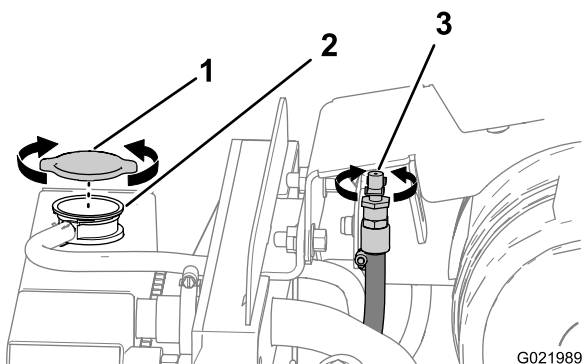
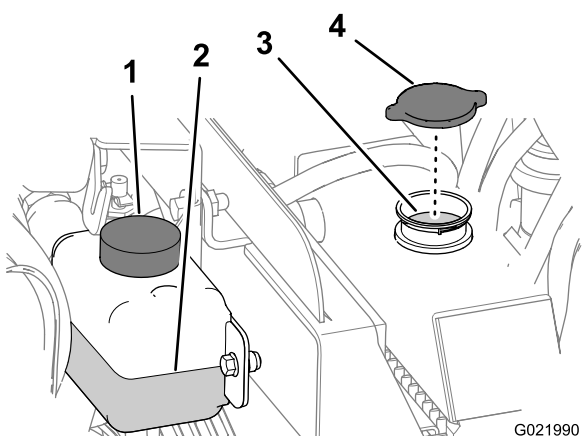

Figure 78
Figure 79
4. Open the vent valve for the engine (Figure 78).
- Remove the radiator cap from the filler neck of the radiator and check the coolant level (Figure 78 and Figure 79),
- If the coolant level is low, add coolant until the level is up to the bottom of the filler neck (Figure 79).
- Remove the radiator cap (Figure 78 and Figure 79).
- B. Open the vent valve (Figure 78).
- A. Open the vent valve (Figure 78).
1. Remove the radiator cap (Figure 78 and Figure 79).
2. Open the vent valve (Figure 78).